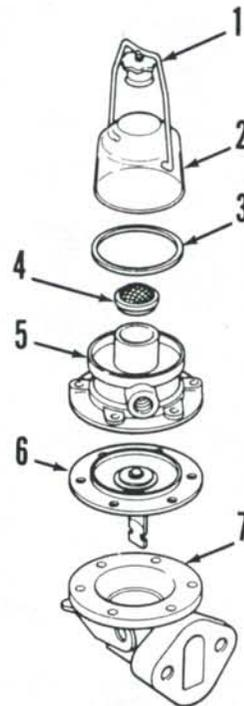

Fig. 108—Exploded view of fuel transfer pump used on all models.
**134.** Fuel supply (transfer) pump is actuated by a lobe on engine camshaft via a short push rod running in a bore in cylinder block. Pump service consists of renewing diaphragm (6—Fig. 108).